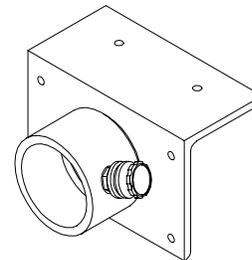

Figure 1-7. Angle Base
d. **Angle Base.** The angle base (Figure 1-7) incorporates a 2-3/4" (7.0 cm) lip to hang a strut for hands-free operation. Typically used at a trench cave-in where wales must be rebraced before personnel are permitted to enter the excavation.